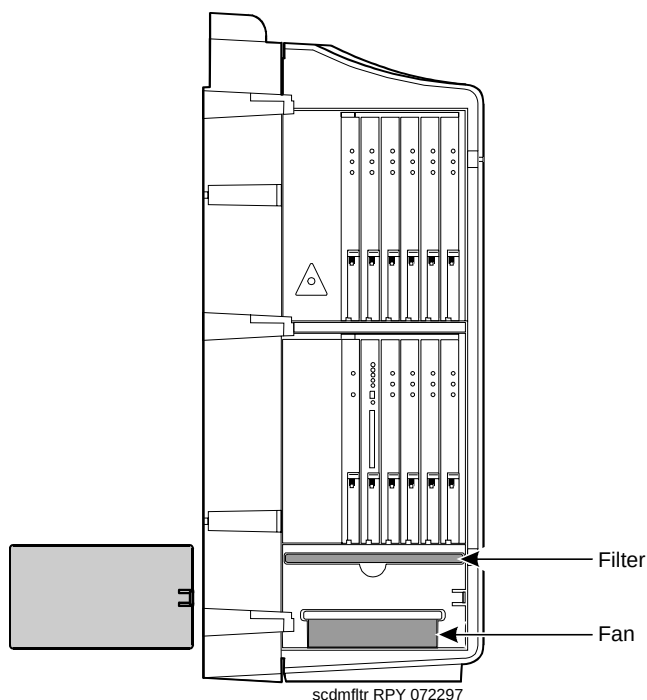

Figure 1-3. Fan/Filter Removal
2. Remove the fan/filter access panel. See Figure 1-3.